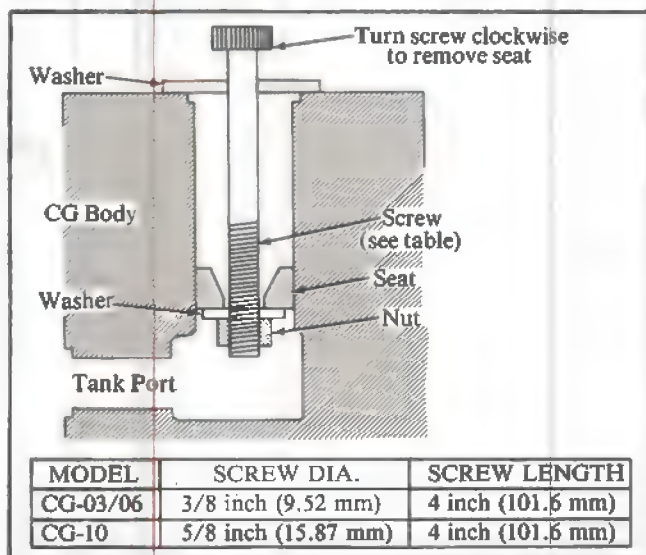

Figure 4. Seat (19) Removal Tool (CG Models)
2. One screw (approximately 4 inches long), two washers, and one nut. This particular tool is needed to remove the seat and/or sleeve from the body of CG (subplate mounted) models only. See Figure 4.
11. If piston (18) is damaged, secure body (21) in vise so mounting surface is face up. Insert a screw through seat (19). See Section VI, B and Figure 4 for removal of seat (19).
12. Remove plug (22) from body (21). Remove seal (23) from plug (22).
13. Discard seals (6), (10), (15) and (23).